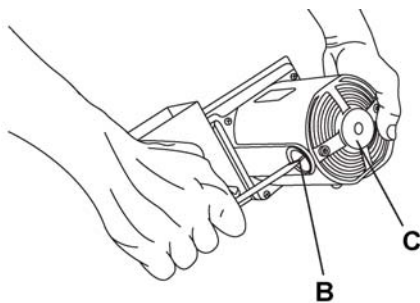

Figure 45
5. Referring to Figure 45:
6. Remove the black plastic cap (B) from the side of the motor (C).